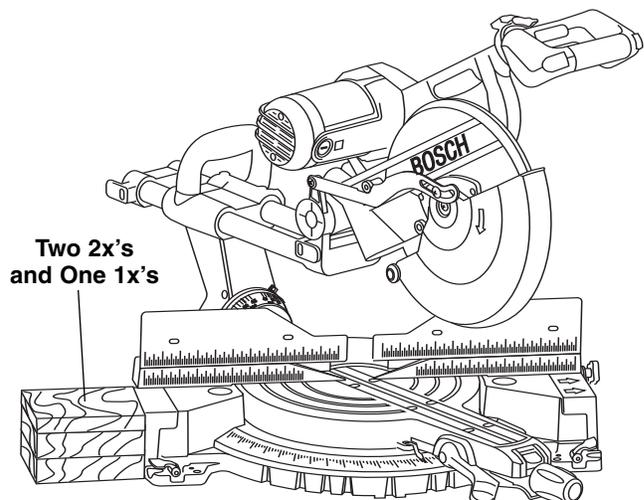

Figure 3. Block Support
**Blocks** - The base height (3-3/4") is designed to match the standard lumber of two 2x's and one 1x. Boards of these thicknesses can be used to create auxiliary support extensions for long workpieces (Figure 3).